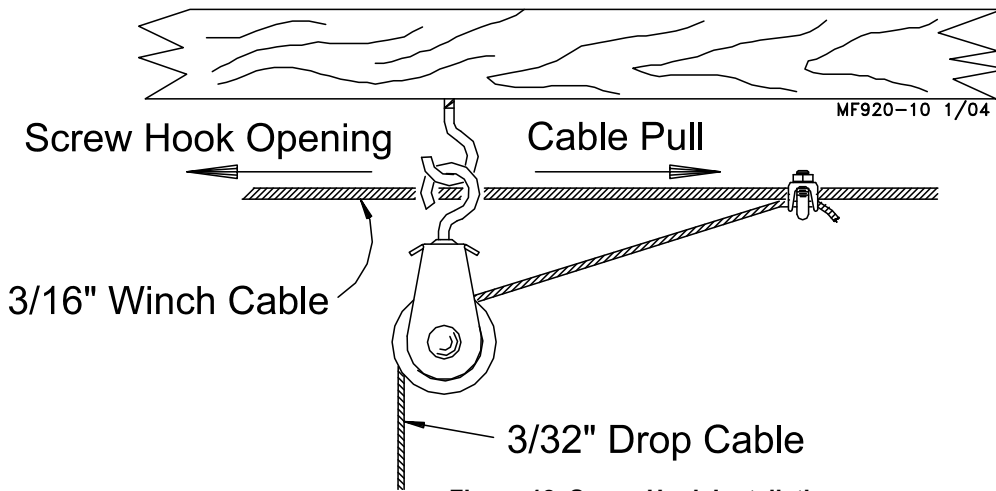

Figure 18. Screw Hook Installation
Screw the hook into the truss the full length of the threads to prevent bending. The openings of the screw hooks must be pointed away from the direction of travel when the power winch raises the feeder line. (See Figure 18)
2. Thread the end of the 3/32" cable through the pulley toward the winch. Clamp this end to the 3/16" winch cable about 6" (150 mm) from the pulley, using a 3/16" cable clamp, **See Figure 18 (on page 20)**